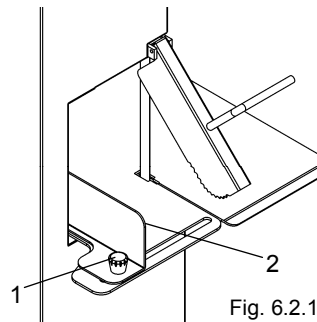

Fig. 6.2.1
6.2 Preliminary settings (Fig. 6.2.1)